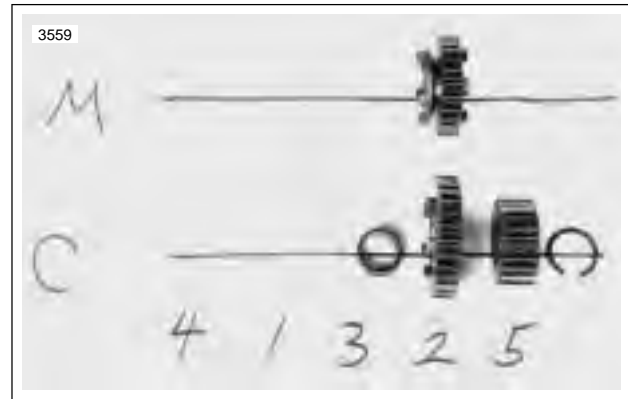

Figure 6-39.
1. See Figure 6-39. As each component is removed, place it on a clean surface in the exact order of removal.